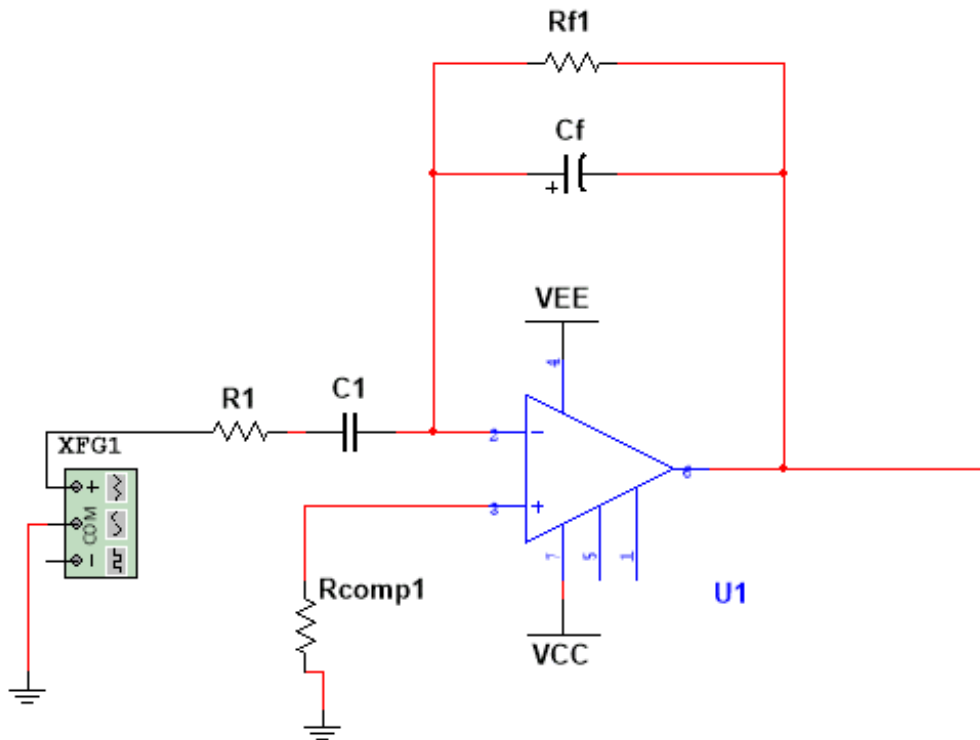

Fig 3.1: Op-amp as a Differentiator
2. Setup the circuit as shown in figure 3.1.